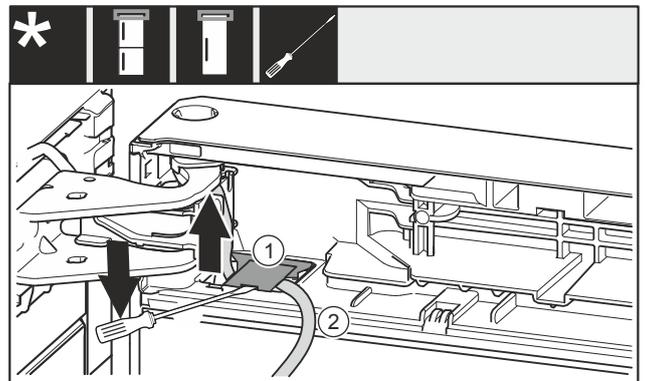

Fig. 26
- ▶ Use the slotted screwdriver to lift the cover Fig. 26 (1) up and pull it out.
- ▶ Pull out the cable Fig. 26 (2).